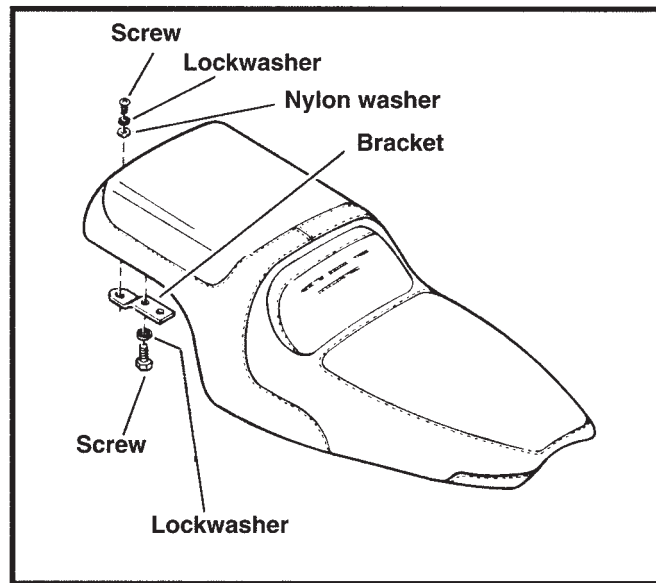

Figure 44. Seat and Mounting Hardware (Typical)
- See Figure 44. Remove screw and washer from rear seat bracket.